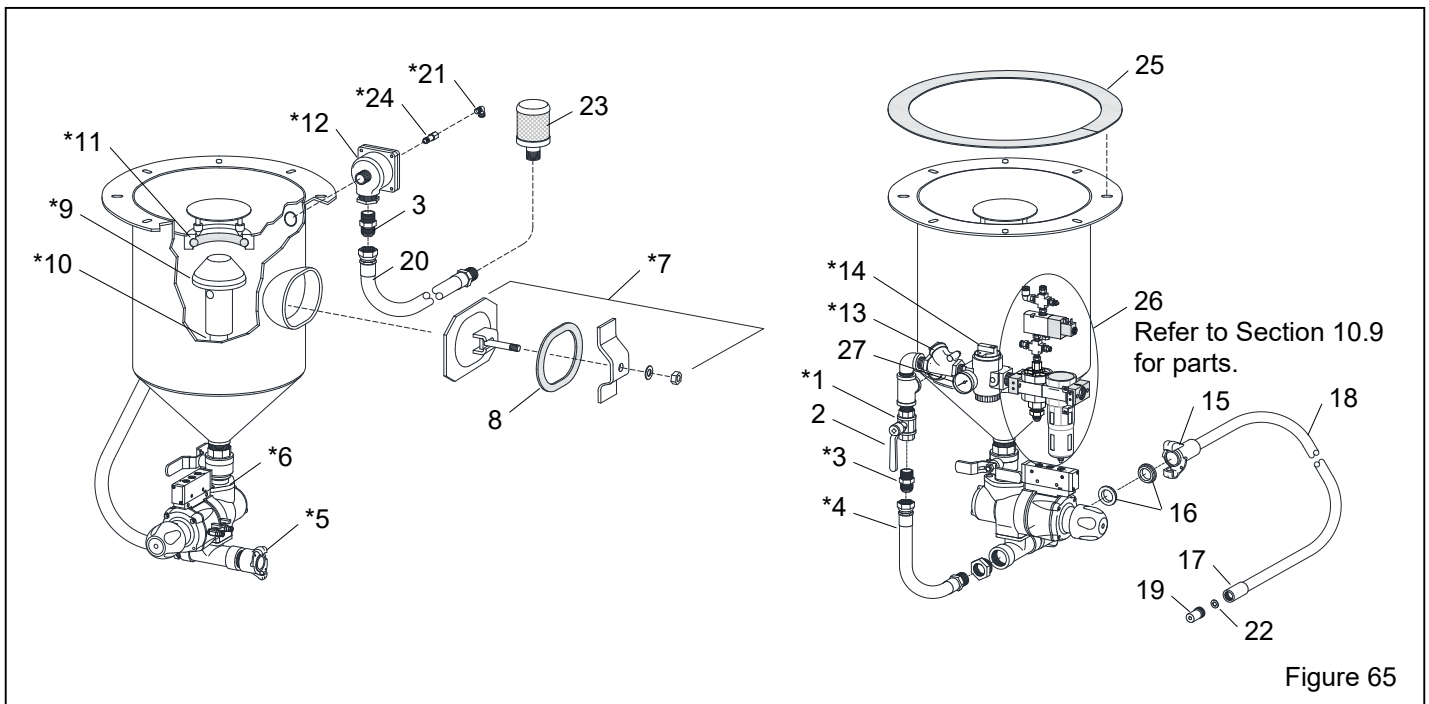

Figure 65
10.8 Blast Machine – Figure 65